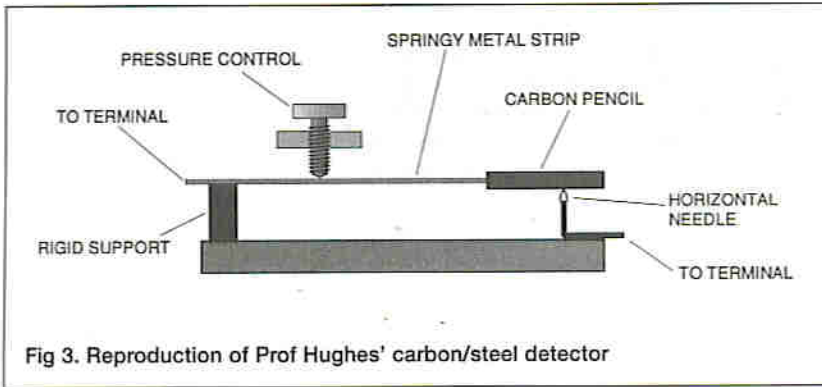

Fig 3. Reproduction of Prof Hughes' carbon/steel detector
B. Hughes' carbon pencil/steel needle (Fig 3)